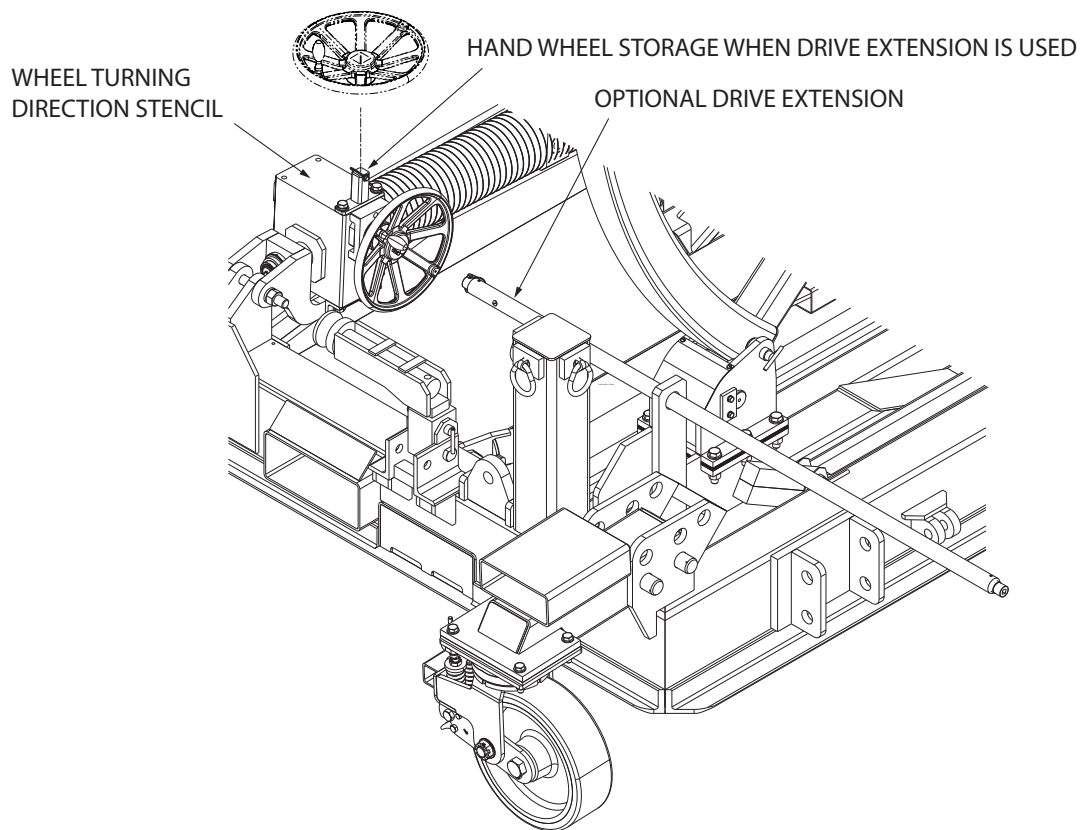

Figure 5.1-1 Hand Wheel Storage and Drive Extension
- 3) Turn the hand wheel in the direction indicated by stencils to rotate cradle in direction required (AFT looking FWD): CCW to rotate and lower cradle CCW and CW to rotate and raise cradle CW (Figure 5.1-1).